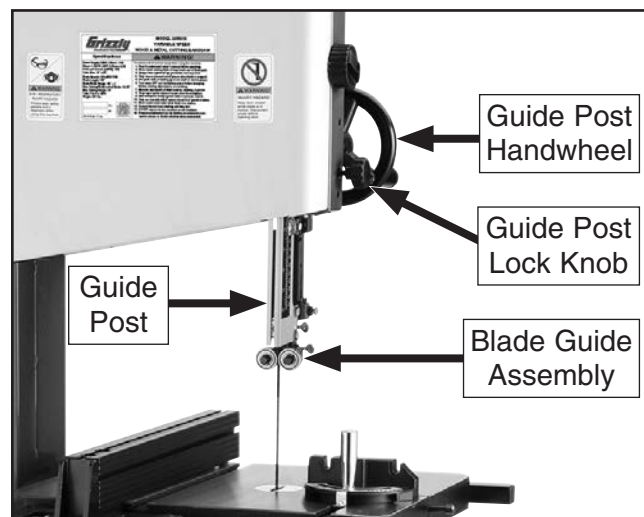

Figure 30. Guide post controls.
The guide post (shown in **Figure 30**) connects the upper blade guide assembly to the bandsaw. The guidepost allows the blade guide assembly to move up or down to be as close to the workpiece as possible. In order to cut accurately and safely, the bottom of the blade guide assembly must be no more than 1" from the workpiece at all times—this positioning provides the greatest blade support and minimizes the amount of moving blade exposed to the operator.
- Loosen the guide post lock knob shown in **Figure 30**.